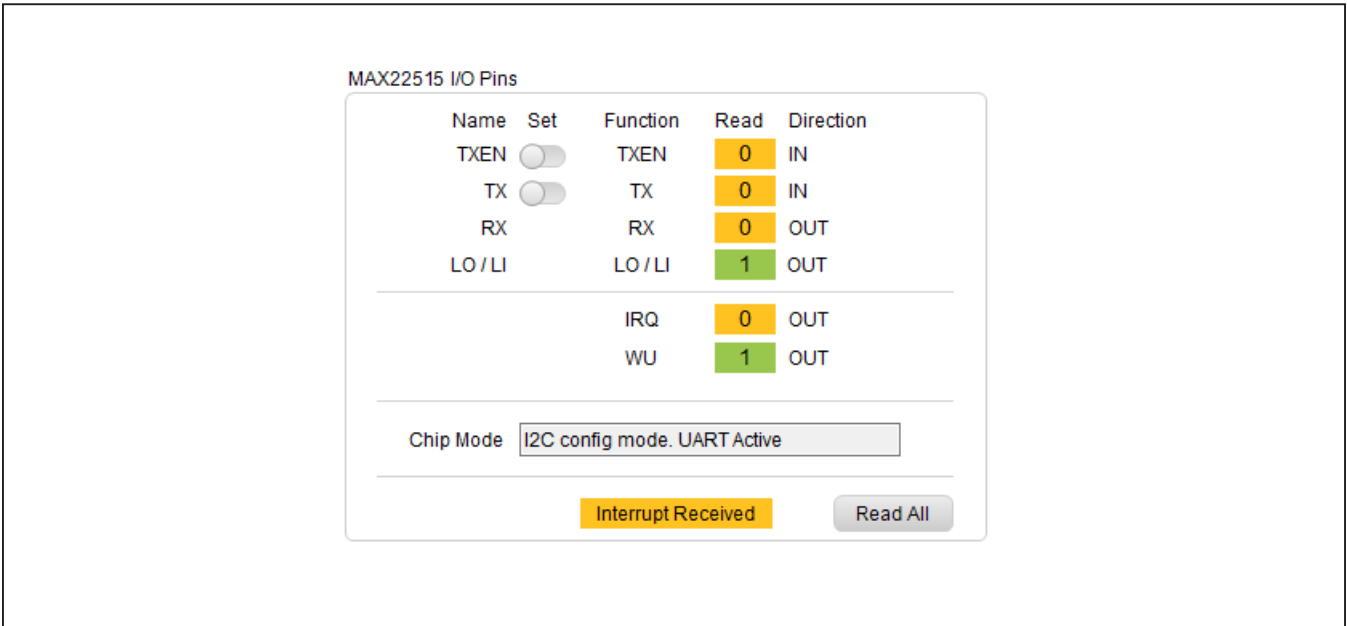

Figure 2. MAX22515 EV Kit Software, Interrupt Received
- 7) Verify that **Status: MAX32660 Connected, MAX22515 ADR = 0x68** is displayed on the status bar at the bottom left of the main window (Figure 2).
in the I/O Pins box stating "Interrupt Received" (Figure 2). Read the INTERRUPT register to clear the interrupt and deassert WU/IRQ.